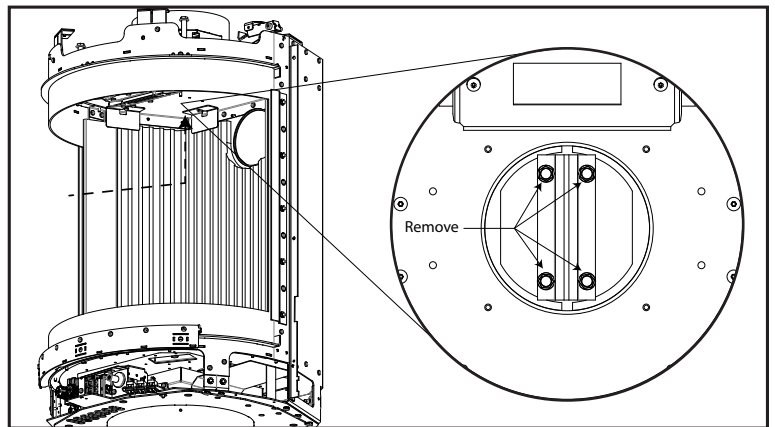

Figure 66: Restrictor Plate Removal
5. Rotate the restrictor disk by hand from inside the firebox until the four (4) screw heads are exposed; remove them using a 5/16" socket (see Figure 66). The finger catch can be loosened and moved if it is inhibiting the movement of the restrictor.